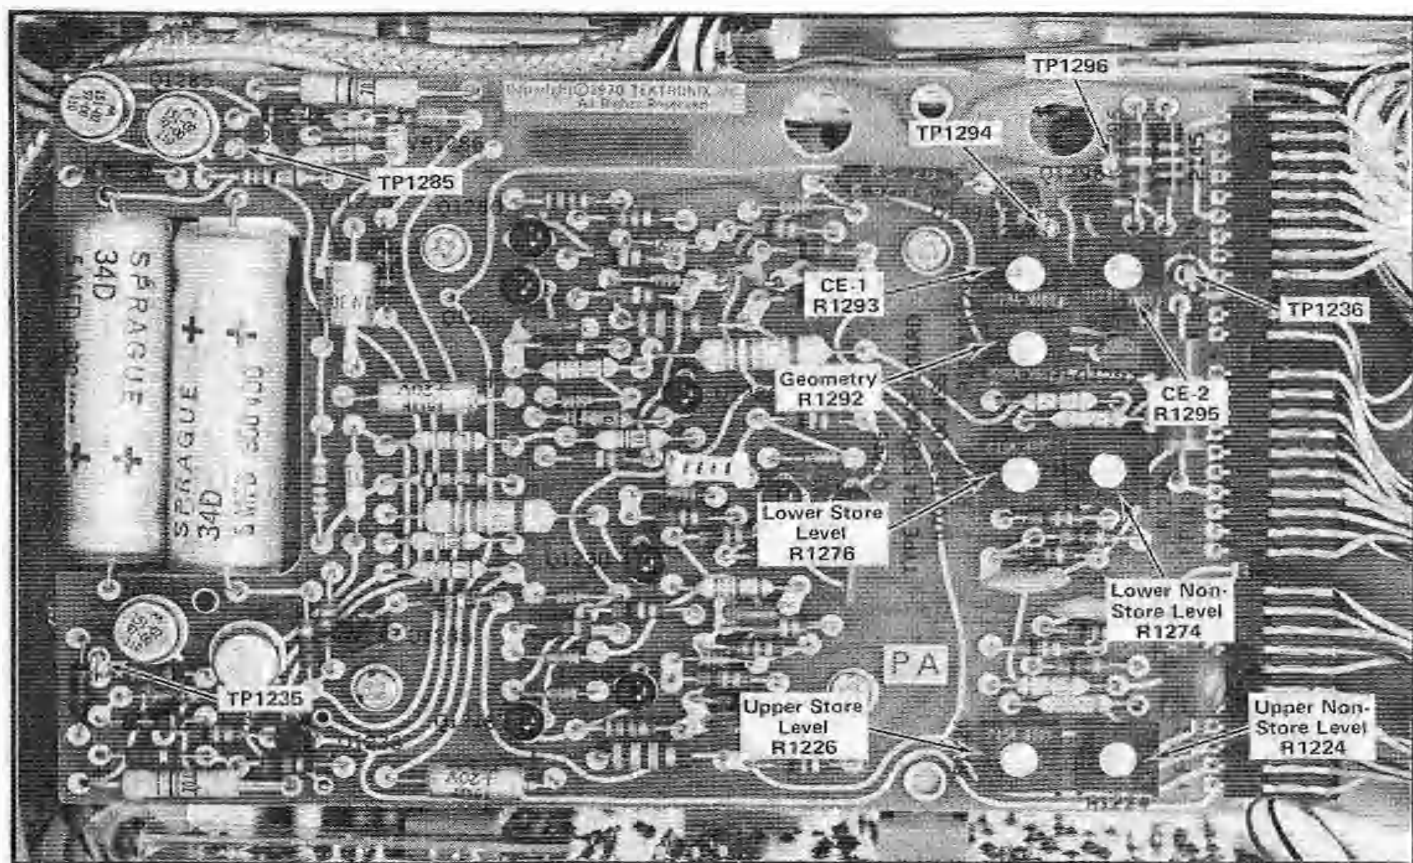

Fig. 5-6. Location of storage circuit adjustments and test points.
b. Connect the minus lead of a DC voltmeter to test point TP1236 and the plus lead of the meter to test point TP1294. See Fig. 5-6 for test point locations.
c. Adjust R1293 (CE-1, see Fig. 5-6) for a meter reading of 100 volts.
d. Move the plus lead of the meter to test point TP1296 (see Fig. 5-6).
j. Set the UPPER SCREEN STORE button to non-store (button out) position and move the plus lead of the meter to test point TP1285 (see Fig. 5-6).
d. Connect the plus lead of the DC voltmeter to test point TP1235 (see Fig. 5-6).